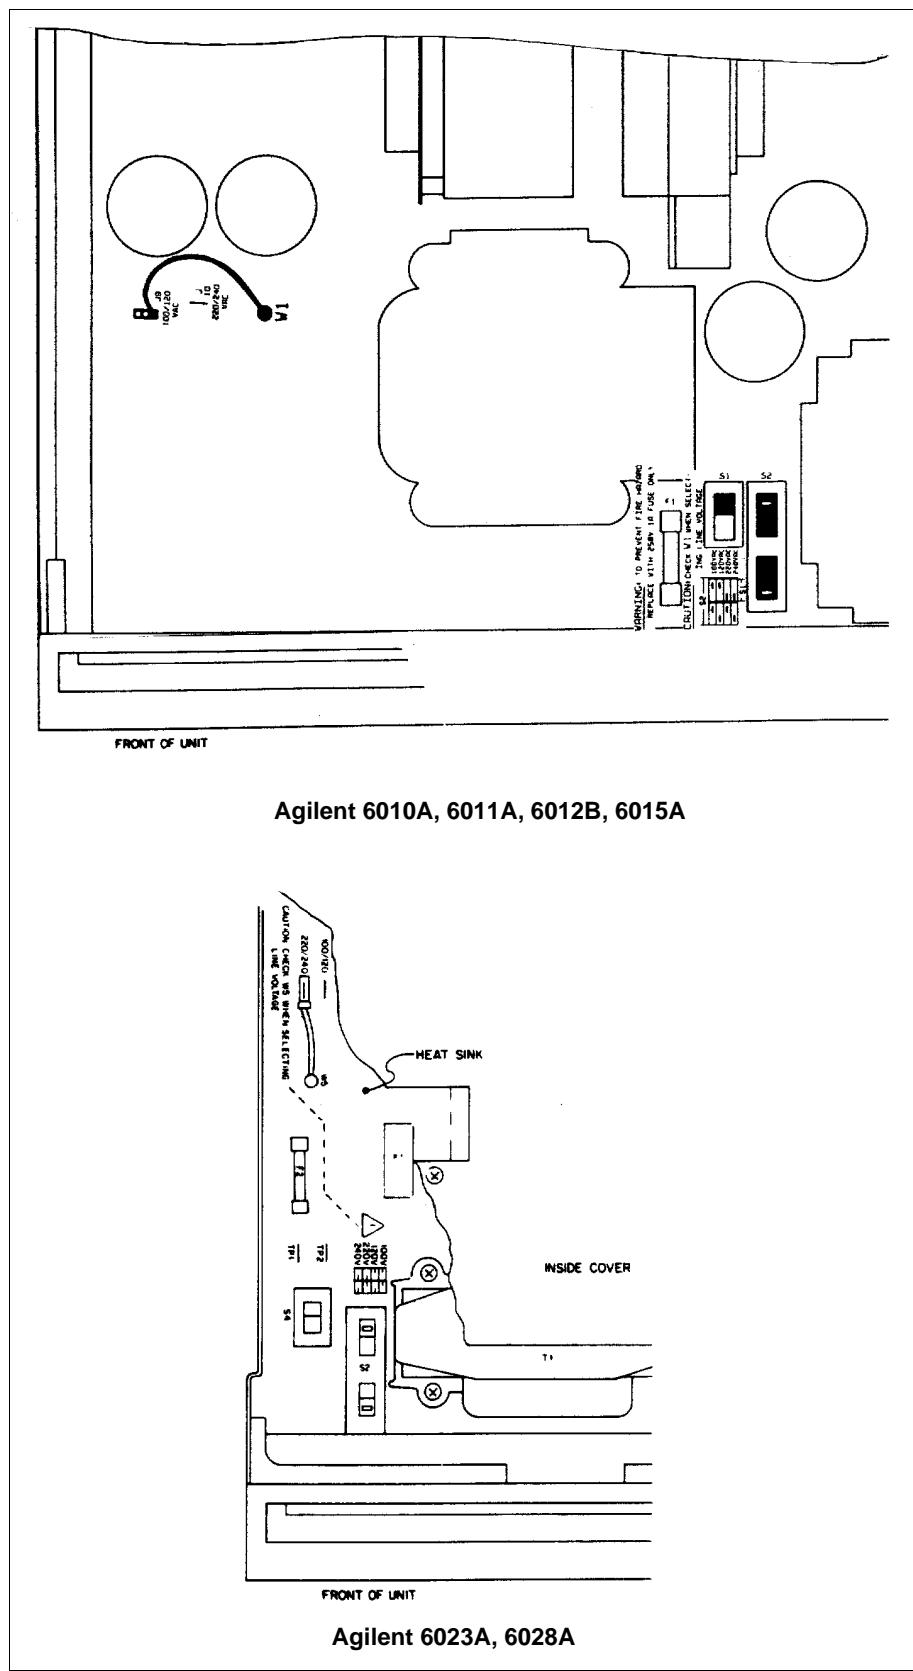

Figure 2-3. Line Voltage Conversion Components
- The line voltage select switch (S2) is located in the front left corner of the supply (see Figure 2-3). Use a small-blade screwdriver to set the two switch sections to match the pattern silk-screened on p.c. main board as shown in Figure 2-3. For example, to set switches for 120 V operation (as illustrated), move forward switch section so that its white slot is toward front of supply and move rearward switch section so its white slot is toward rear of supply.